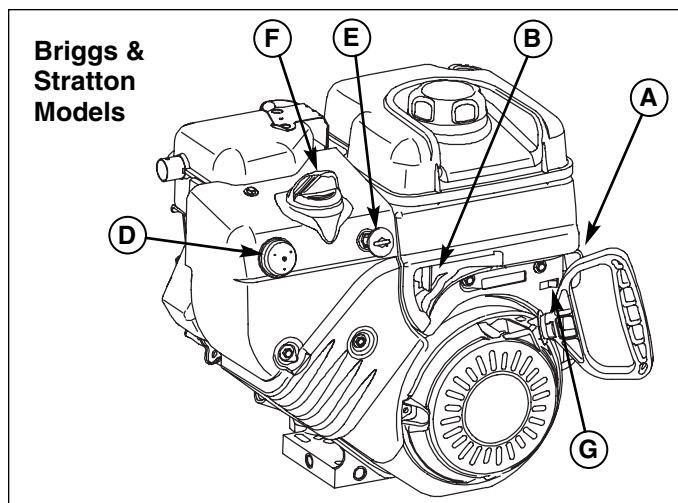

Figure 4. Engine Controls
The traction drive to each wheel can be locked and unlocked with the Traction Lock Pins (H, Figure 4) to permit the unit to “free-wheel,” allowing easier manual handling and transport of the snowthrower.
1. Turn the fuel valve (B, Figure 4) to the ON position.
2. Turn the On/Off switch (G) to the ON position.
3. Insert the engine key (E) into the engine key slot and push fully in to the RUN position.
4. Fully close the choke (F) if engine is cold. (Do not choke a warm engine.)
5. Push the primer button (D) two times if engine is cold. (Do not prime a warm engine.)
6. Pull starter handle (C) rapidly, or push starter button if equipped with the electric start. Do not allow the starter handle to snap back—let the starter rope rewind slowly—while keeping a firm grip on the starter handle.
7. As the engine starts and begins to operate evenly, open the choke (F) slowly. If the engine falters, turn the choke knob clockwise until the engine runs smoothly, and let it run briefly before returning the choke to the OPEN position.